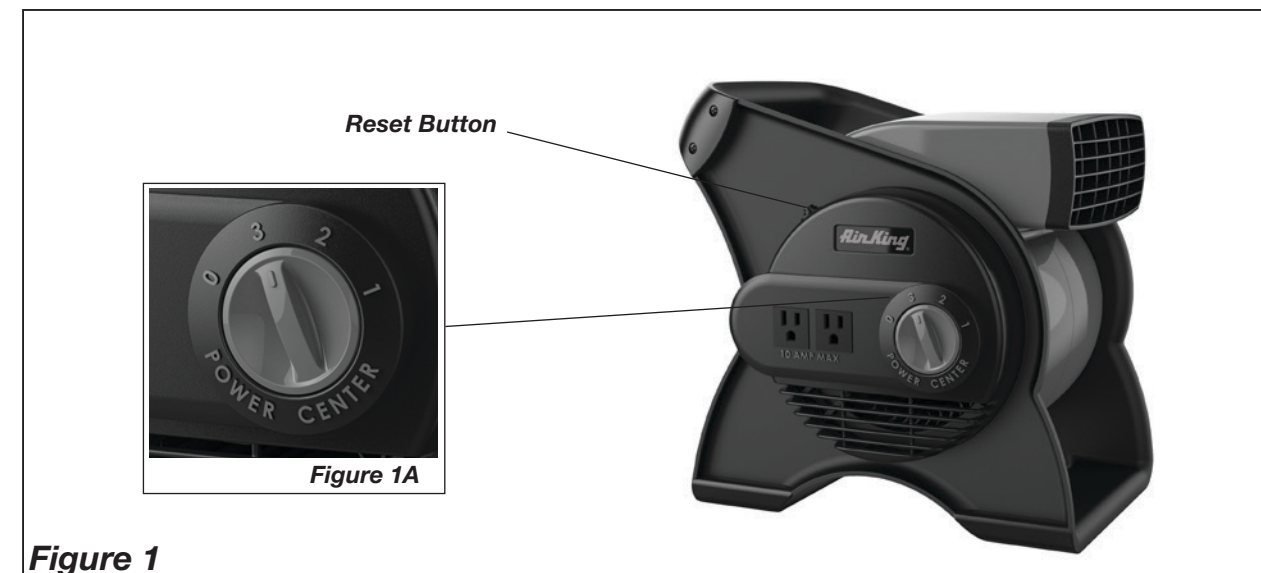

Figure 1
5. To adjust the angle of the Fan air flow, rotate the Fan body forward or backward to the desired position. (Figure 1)
6. To turn the Fan OFF, turn the **Power Knob** to OFF (0) and unplug the unit from the electrical outlet.